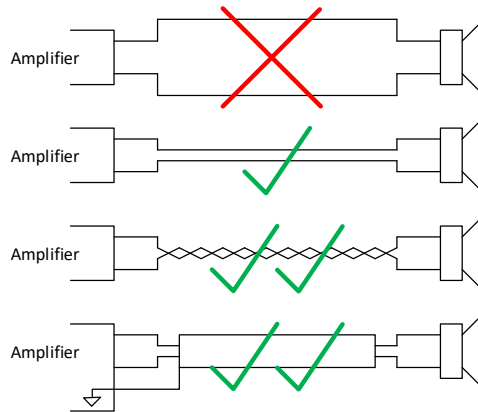

Figure 28: Speaker wire routing
- Avoid wire loops on the speaker output wires. Use wires closely paired side by side or if required use twisted or shielded cables (Figure 28)